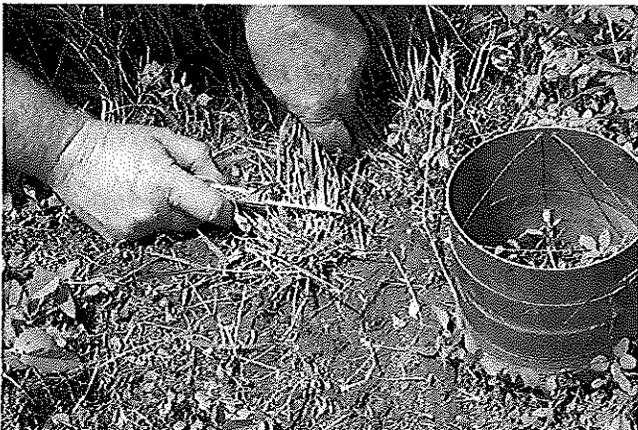

Figure 8.2. Remove aboveground vegetation.
3. Remove the aboveground vegetation (Fig. 8.2).